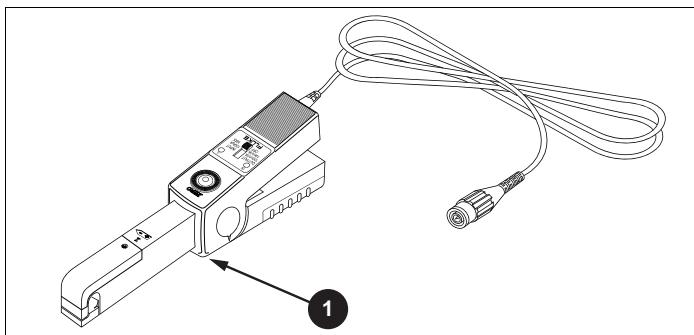

Figure 1. 80i-110s AC/DC Current Probe
- Tactile barrier (see Figure 1, item 1).